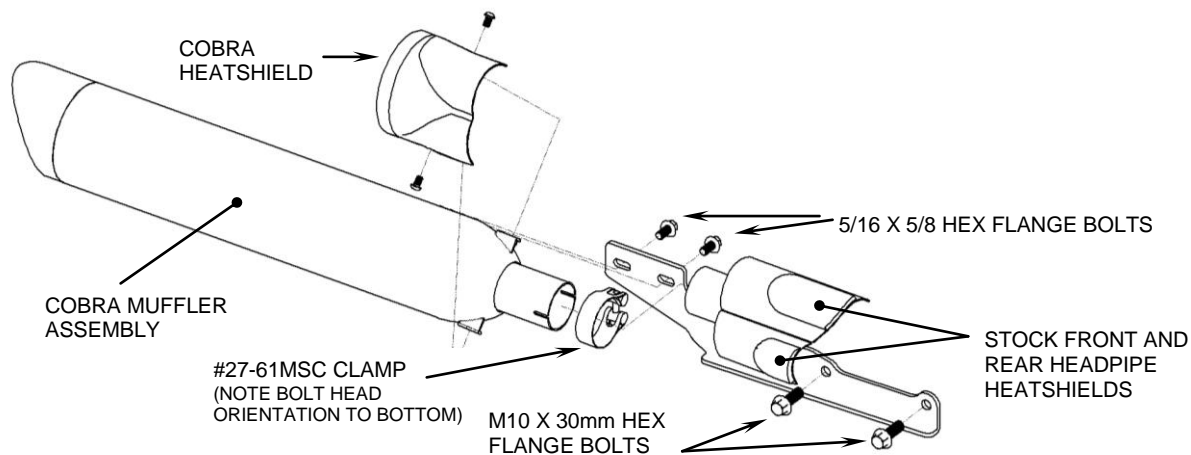

FIGURE 2
3. Install Cobra supplied exhaust mount bracket on to Cobra slip-on muffler using supplied 5/16 X 5/8 hex flange bolts. Be sure orientation is as shown in Figure 2. **DO NOT TIGHTEN AT THIS TIME.**
4. Place supplied 27-61 clamp over muffler inlet and begin to push the muffler and exhaust bracket onto headpipe collector until muffler bracket holes align with the holes in the right side frame member. See Figure 2, for clamp orientation.
7. Check muffler is level with front and rear headpipe heatshields and snug 5/16 X 5/8 hex flange bolts and M10-1.25 x 30mm flange bolts securing muffler and bracket to motorcycle, see Figure 2.